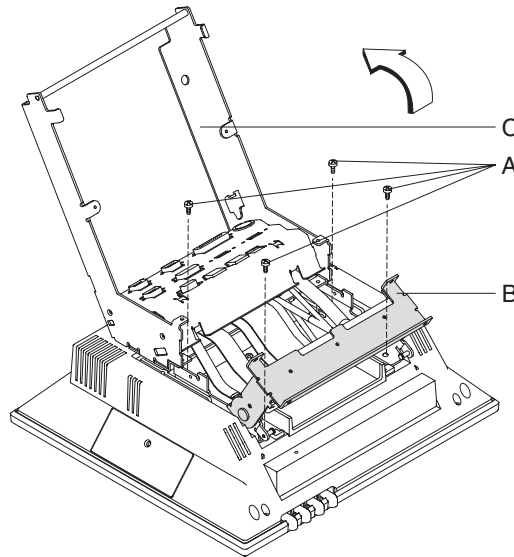

Figure 130. Removing the hinge assembly
7. Rotate the base mounting bracket and tailgate assembly **C** over the top of the display and position it as shown in Figure 130.
8. Detach the hinge assembly **B** by removing four screws **A** and remove from the system as shown in Figure 130.